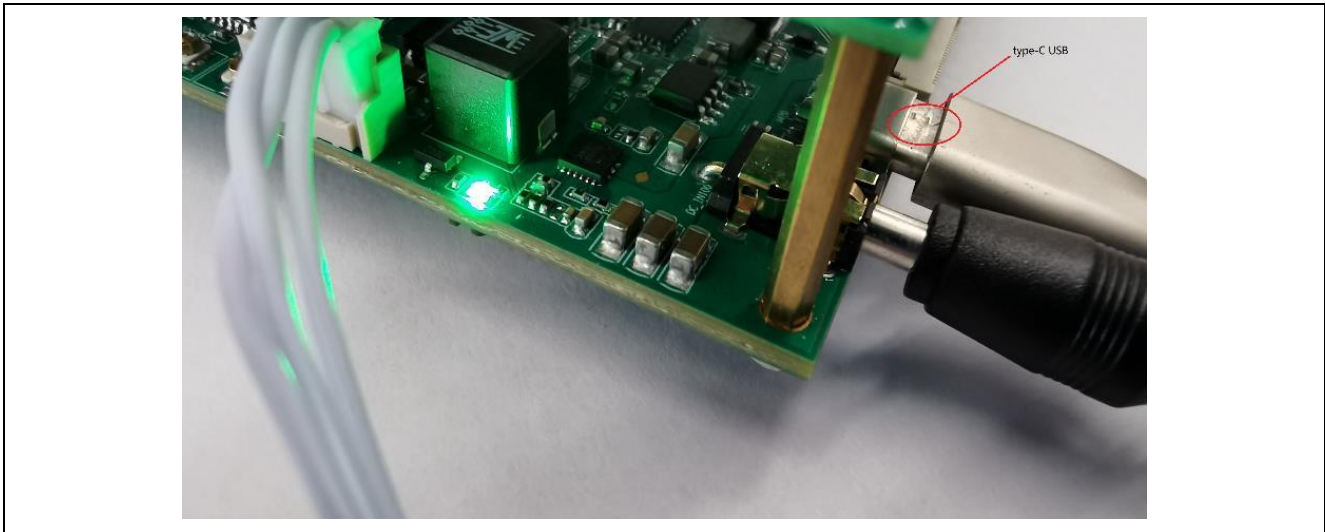

Figure 2.14 USB Connection
- 2) Connect your ISP board (Type-C socket) with your PC USB port, as below Figure2.14: